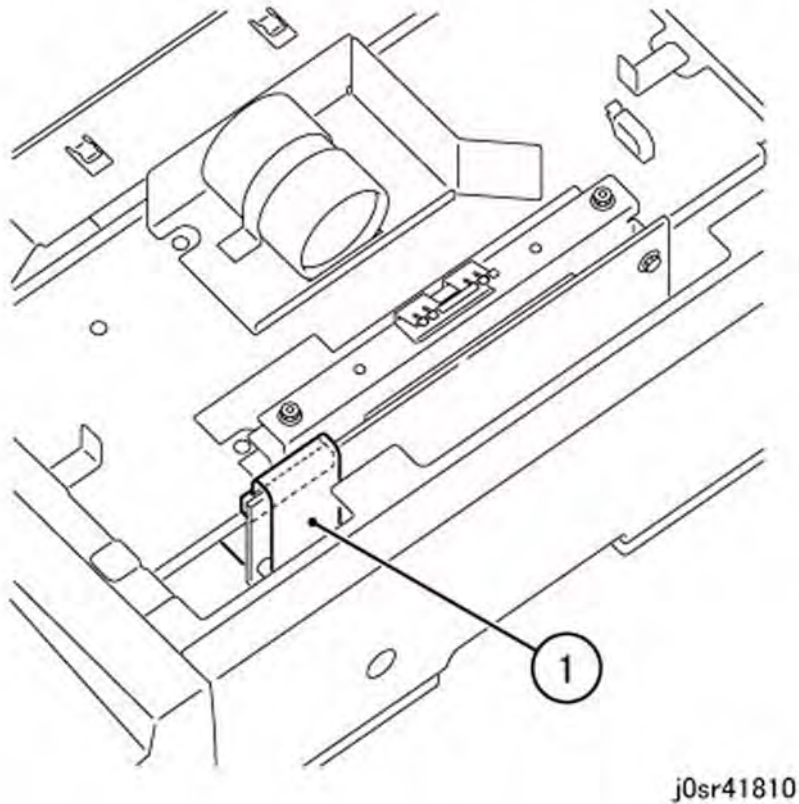

Figure 2 Disconnecting the CCD Flat Cable
4. Disconnect the CCD Flat Cable (Figure 2).